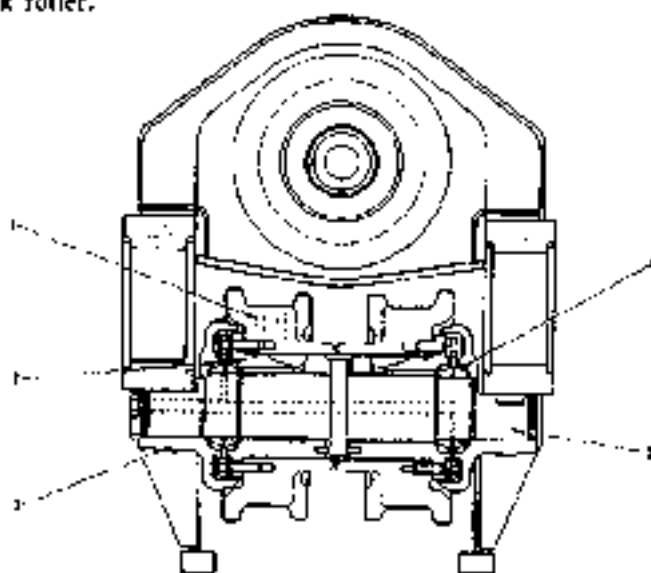

Fig. 2-38 Double flange track roller
The track roller is used to support the total weight of the machine and to avoid track transverse sliding. The track roller is divided into single flange track roller and double flange track roller. The double flange track roller is shown in Fig. 2-38. Except for the form of the track roller hub (1), the other structure of single flange track roller is identical with that of double flange track roller.